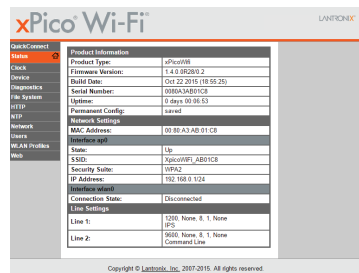

Figure 18: xPico WiFi Main Page
6. A dialog box will appear. Type “admin” in lower case in the User Name box and the full MAC/Serial # without dashes (e.g. 0080A3AB01C8) in the Password box. Click on Log In button. See Figure 18.